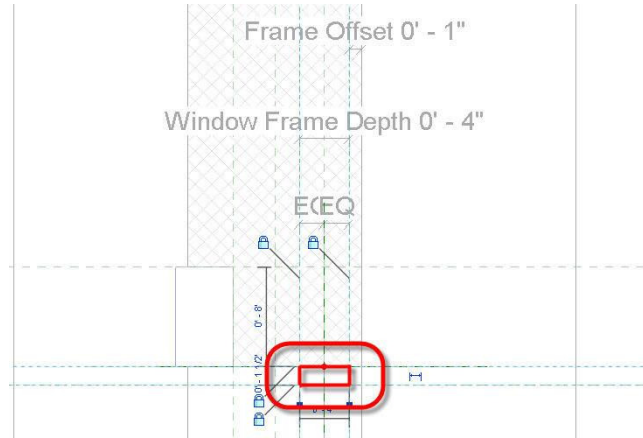

Figure 36. Creating the Sweep Profile Sketch.
32. Use the Rectangle tool from the ribbon to create the sketch shown in Figure 36. Again, don't forget to lock all sketch lines to the appropriate Reference Plane.